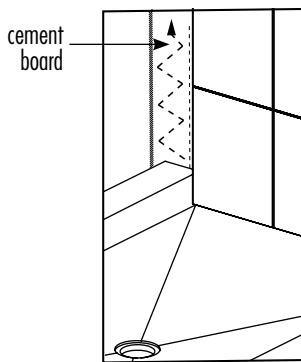

figure 27
2. Apply silicone, using a zigzag pattern, to the wall along the panel's edge approximately four inches out: to the far outside of the shower pan (fig. 27).